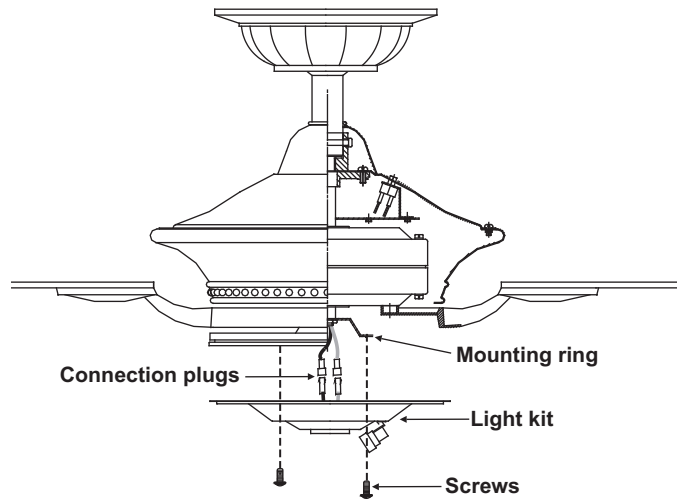

Figure 14
Step 2. Raise and hold the light kit close to the mounting ring and proceed to do the wire connections. Connect the white wire connectors from the light kit and fan, follow the same procedure with the black wire connectors. (Fig. 14)
Step 3. Place the light plate key holes over the 2 screws previously loosened from the mounting ring, turn light kit until it locks in place at the narrow section of the key holes. secure by tightening the 2 screws previously loosened and the one previously removed. (Fig. 14).